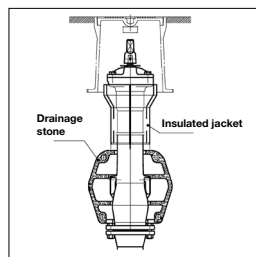

Figure 2
- Before backfilling in the pipe trench install the appropriate VAG drainage stone (Fig. 2) for the safe draining of the underground hydrant.